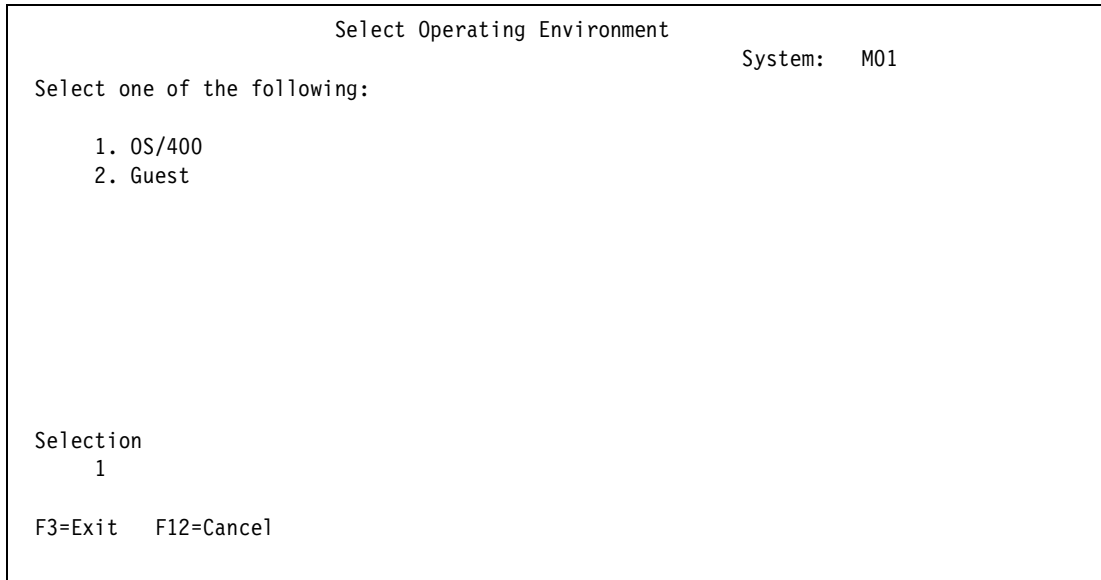

Figure 4-30 Select Operating Environment
5. On the display shown in Figure 4-30, select the operating environment. We choose option 1 (OS/400) for this example. Option 2 (Guest) is for Linux partitions.